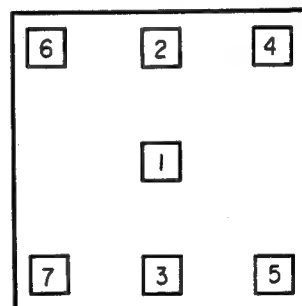

Fig. 7
5. While moving the cursor from **[1]** to **[7]** in sequence, perform the landing adjustment as explained above. (Fig. 7)